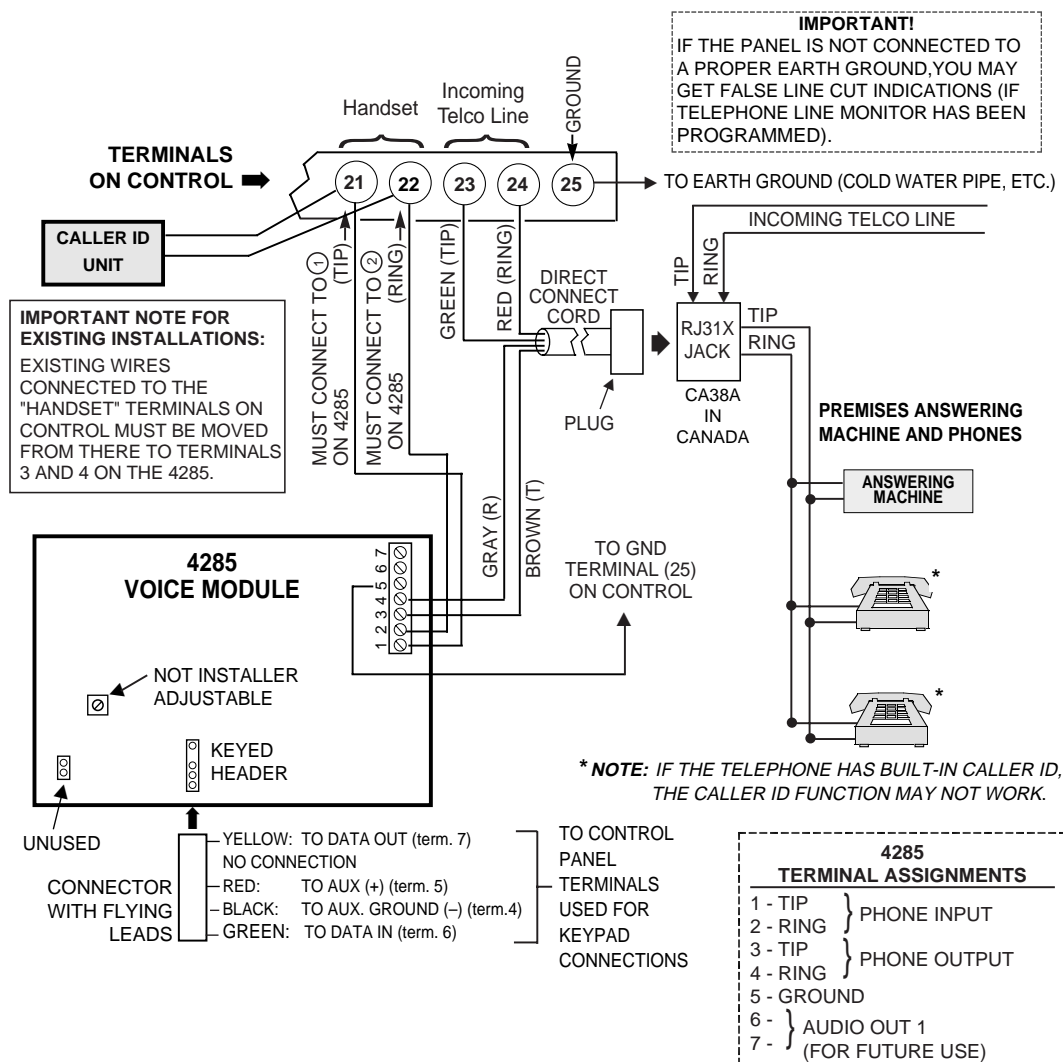

Figure 16. 4285 Phone Module Wiring Connections
1. Make 12V (+) and (–) and data in and data out connections from the Phone Module to the control, using the connector cable supplied with the Phone Module (see Figure 16).